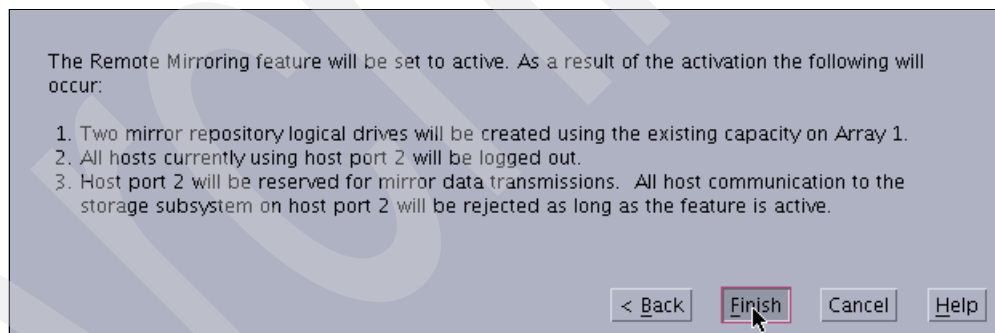

Figure 13-23 Remote Mirroring Wizard: Preview
3. After choosing where to create the mirror repository logical drives, the Activate Remote Mirroring Wizard Preview window appears (Figure 13-23).